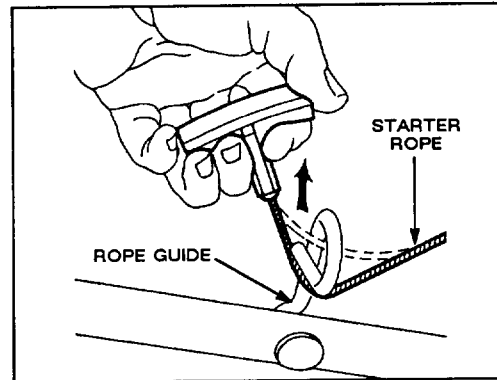

Figure 3
3. Pull starter rope through rope guide on handle (Fig. 3). By squeezing control bar on handle, blade brake will re-